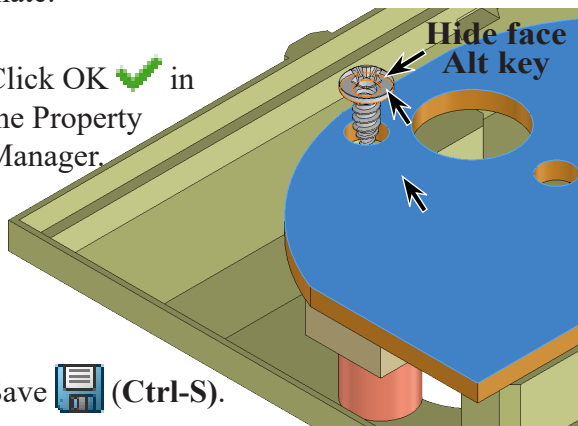

Fig. 9
Step 4. Click **top face T Board** and **hide top face of Screw**, click **bottom face of Screw**, **Fig. 9**.